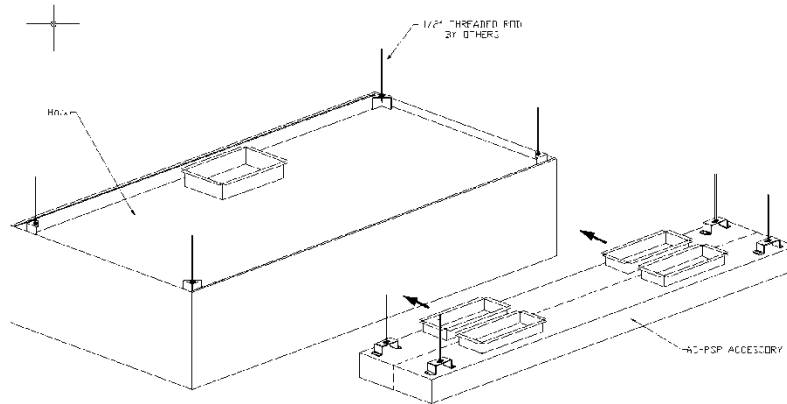

Figure 13A
6. Move the AC-PSP into position as indicated by the project submittal drawings; lining up the top edge of the AC-PSP with the top edge of the hood. Remove the protective plastic coating from the back of the AC-PSP. **See Figure 13a and 13b.**